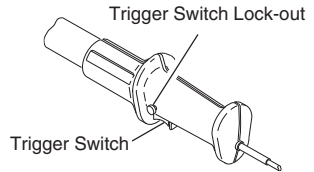

Figure 10 - Pole Saw Handle with Trigger Switch Lock-out
4. When ready to make a cut, press in trigger switch lock-out and squeeze trigger switch (see Figure 10). This will turn Pole Saw on. Releasing trigger switch will turn Pole Saw off. Make sure saw is running at full speed before starting a cut.